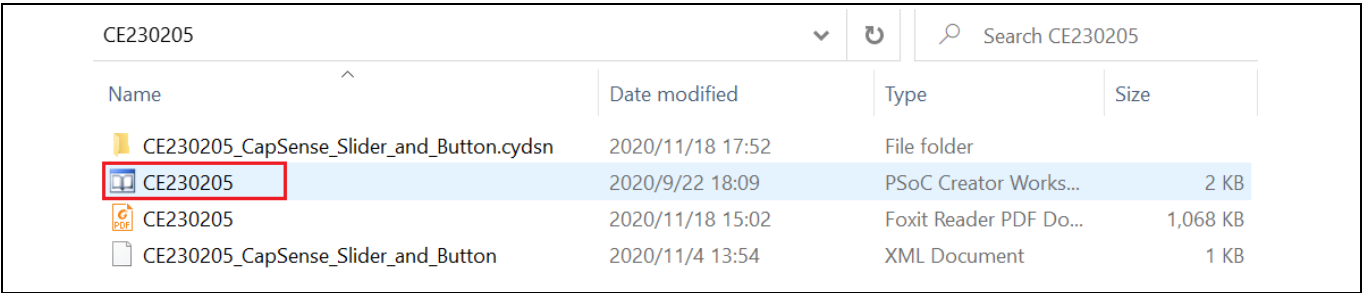

Figure 13 Open Code Example from PSoC Creator
To access these code examples, download the CY8CKIT-045 PSoC 4500S Pioneer kit package from the kit webpage. After extracting the downloaded zip file, select **File > Open > Project/Workspace** in PSoC Creator and then select the code example path to open it. See Figure 13.
- 2. Click **File > Open > Project/Workspace**, and then select the code example path. See Figure 13.